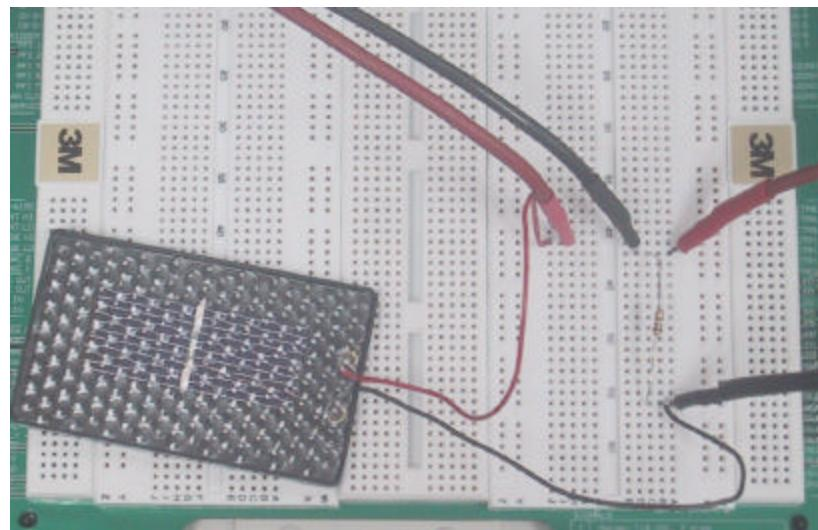

Figure 2.9
- C. Using the red Banana to Pin connector, connect the 10mA socket in the Fluke Ammeter used in Task 2 to the red lead from the solar panel. Using the black Banana to Pin connector, connect the ground socket from the Fluke Ammeter to a new node on the breadboard. For details, see Figure 2.9.
- E. Connect the HP DMM voltmeter across the  $1\text{ k}\Omega$  resistor. Connect the 2nd node of the  $1\text{ k}\Omega$  resistor to the black connector of the solar panel. To double check the connection see figure 2.9 on the next page.